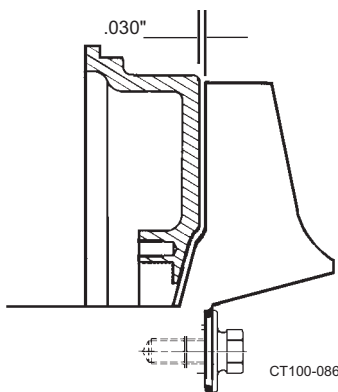
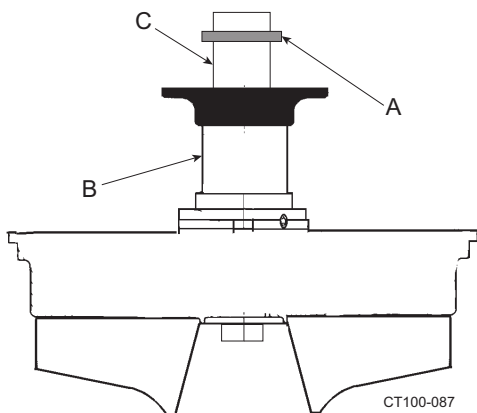

Figure 41 - Clearance Between Impeller and Backplate
Figure 42 - Locations of Shims
22. Check the impeller/backplate clearance with the backplate held firmly in position against the motor adapter. Check the space between the back of the impeller and the backplate with a feeler gauge (0.030" nominal) while holding the backplate tight against the bearing housing flange. Any axial movement of the shaft should not be added to the 0.030" nominal clearance (Figure 41). If needed, change this clearance by adding or removing shims. Shims (Figure 42, item A) are added on the drive shaft (Figure 42, item C) behind the impeller shaft (Figure 42, item B).